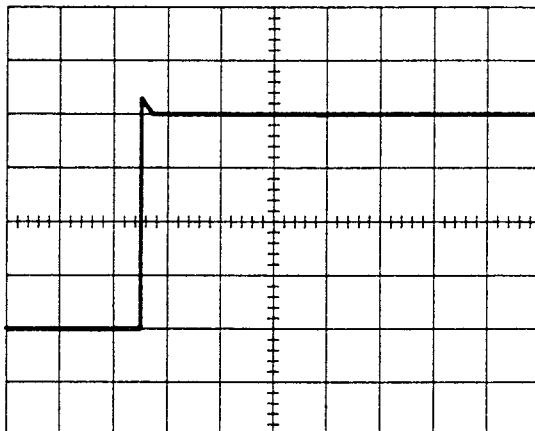

Fig. 4-1. Correct Pulse Display
- A. Adjust FOCUS and INTENSITY controls for a clear, bright trace. Adjust POSITION and GAIN controls for a four division high pulse (see Fig. 4-1). *NOTE: If this specification cannot be met, check performance of gain amplifier or vertical amplifier circuits on Vertical Board.*